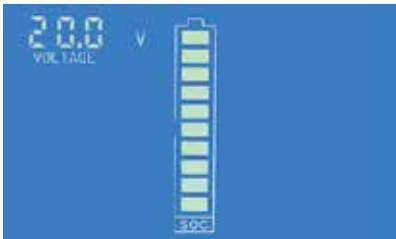
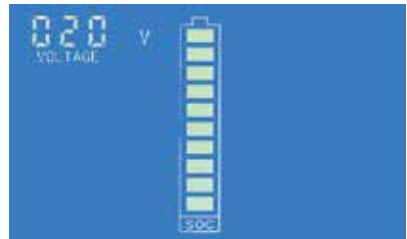

Figure 3: full voltage setting interface (low bit)
Figure 4: full voltage setting interface (high bit)
2. SET character blink present it is the setting status of full / cut-off voltage, long press the button until the LCD screen displays the interface like fig. 3, then release the button.
- At this time, the battery symbol display full grids energy means the full voltage setting status, factory default the full voltage is 020.0V, the numerical code circulation flashing from the low bit to the high bit show that the current setting digit, short press to set the digit; please pay attention that, as the full voltage setting value has 4 digit, but the numerical code has only 3 digit, So the setting is divided into two parts: low bit (fig. 3) thigh bit (fig. 4). For example, the default full voltage is 020.0V, then the display state is 20.0V to 020V low and high cyclic switching display. If you need to set the full voltage is 199.0V, then please set the low bit to 99.0V, when the cycle reaches the high bit, it will display 099V, and only the highest zero bit flicker to prompt it can be setted. Setting the high bit to 199V represents the full voltage is 199.0V.